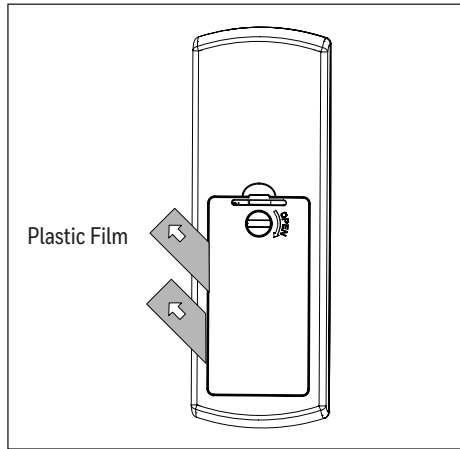

Figure 4.2
2. Batteries were preinstalled in the battery compartment of the remote. Pull the plastic film in the direction of the arrow to remove, which will activate the batteries (Figure 4.2).